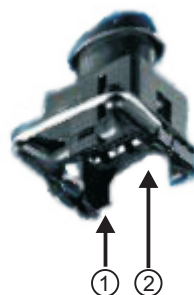

Fig.1
**Code SA144:** it must be used if the positive pole of the original injectors is on PIN No.1 and the negative pole on PIN No.2. Refer to Fig.1.
**Code SA144INV:** it must be used if the position pole of the original injectors is on PIN No.2 and the negative pole on PIN No.1. Refer to Fig.1.
**Code SA143**: it must be used if the positive pole of the original injectors is on PIN No.1 and the negative pole on PIN No.2.Refer to Fig. 1.
**Code SA143INV**: it must be used if the positive pole of the original injectors is on PIN No.2 and the negative pole on PIN No.1.Refer to Fig.1.